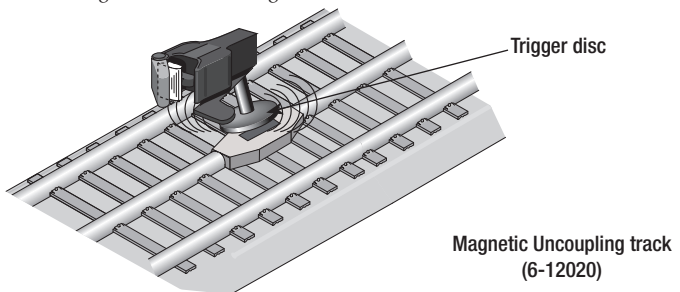

Figure 7. Uncoupling your rolling stock
**Y**our locomotive is equipped with a smoke generator that produces safe, clean white smoke during operation if the smoke unit switch is in the ON position. Refer to Figure 7 on page 15 for the location of the switch.
**T**o uncouple or activate your rolling stock, position the trigger disc over the magnet in the center of the track. Press UNCOUPLE on the controller, and the magnet will pull the trigger disc downward, releasing the coupler or activating the car. Refer to Figure 7.